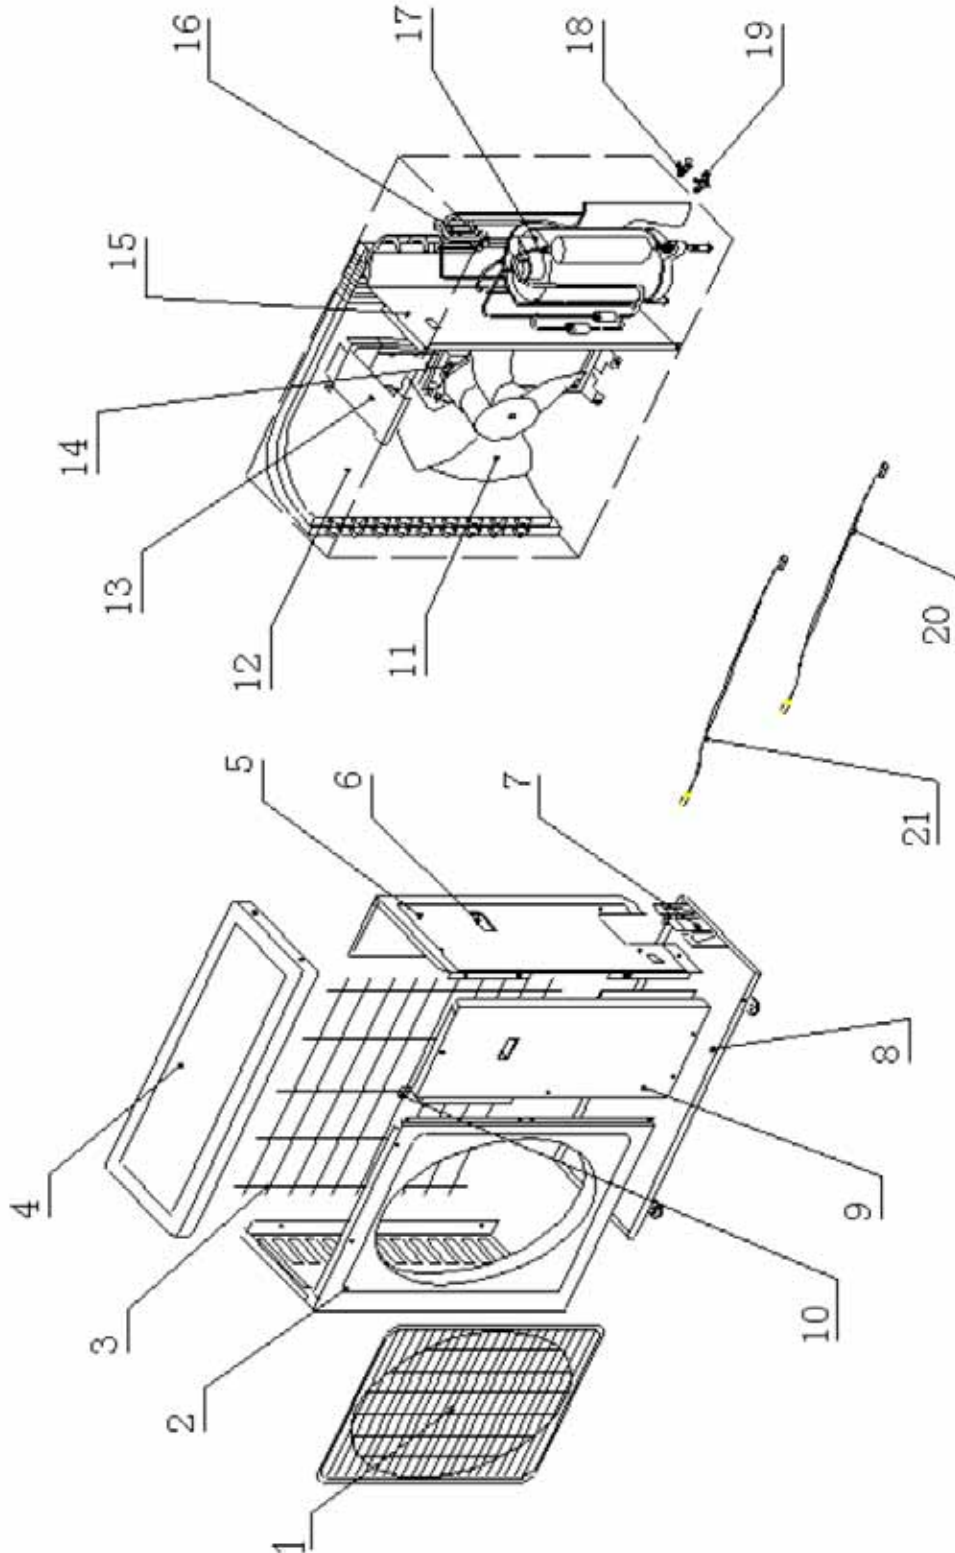

Fig 4.2.2-1
4.2.2 Parts breakdown for outdoor unit as shown in Fig 4.2.2-1